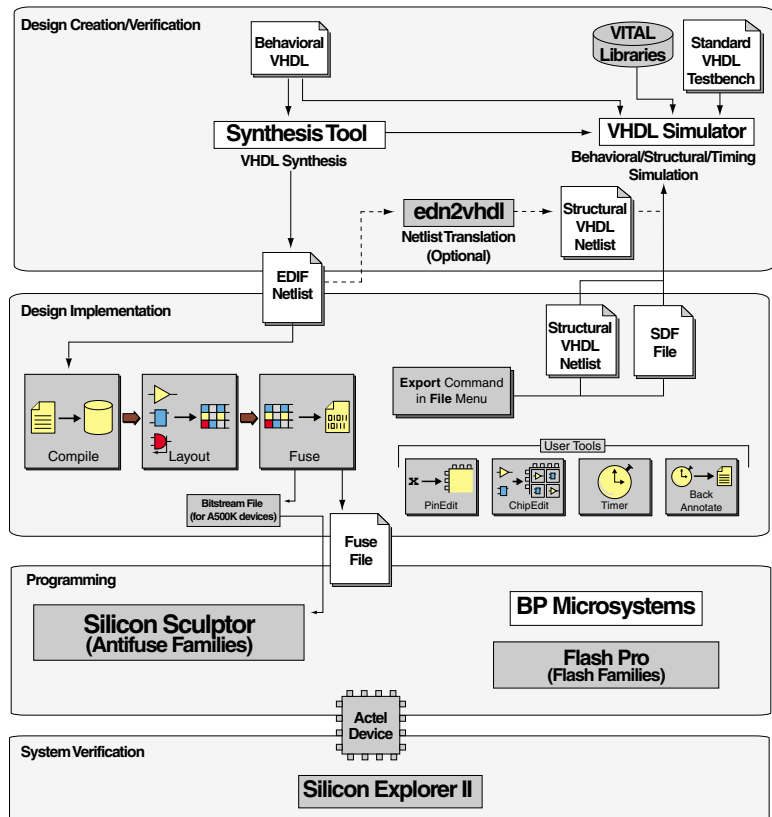

Figure 2-1. Actel-VHDL Design Flow
Figure 2-1 shows the design flow for an Actel FPGA using Designer software and a VITAL-compliant VHDL simulator1.
1. The grey boxes in Figure 2-1 denote Actel-specific utilities/tools.